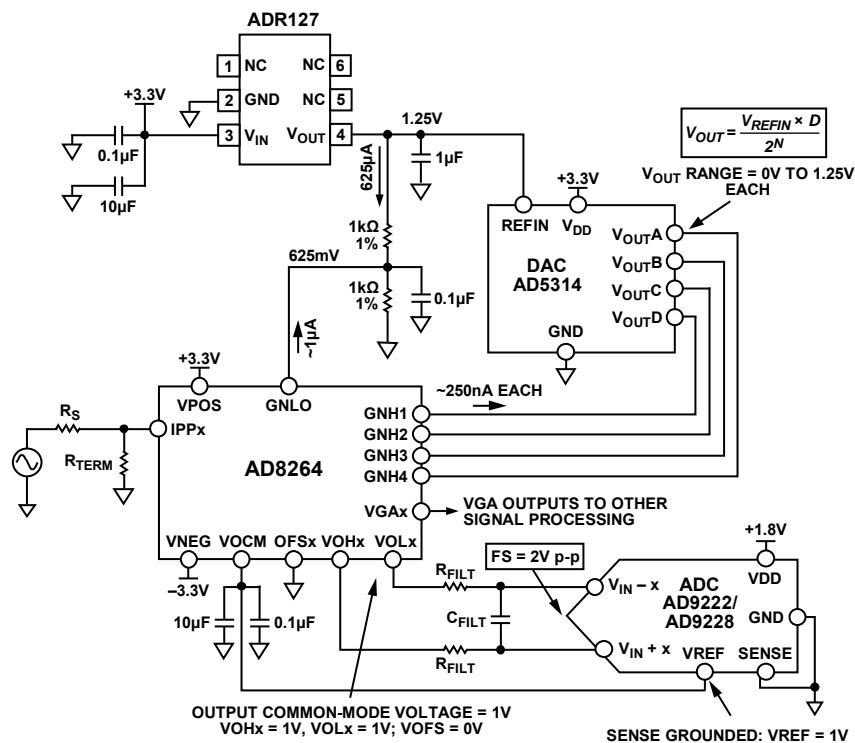
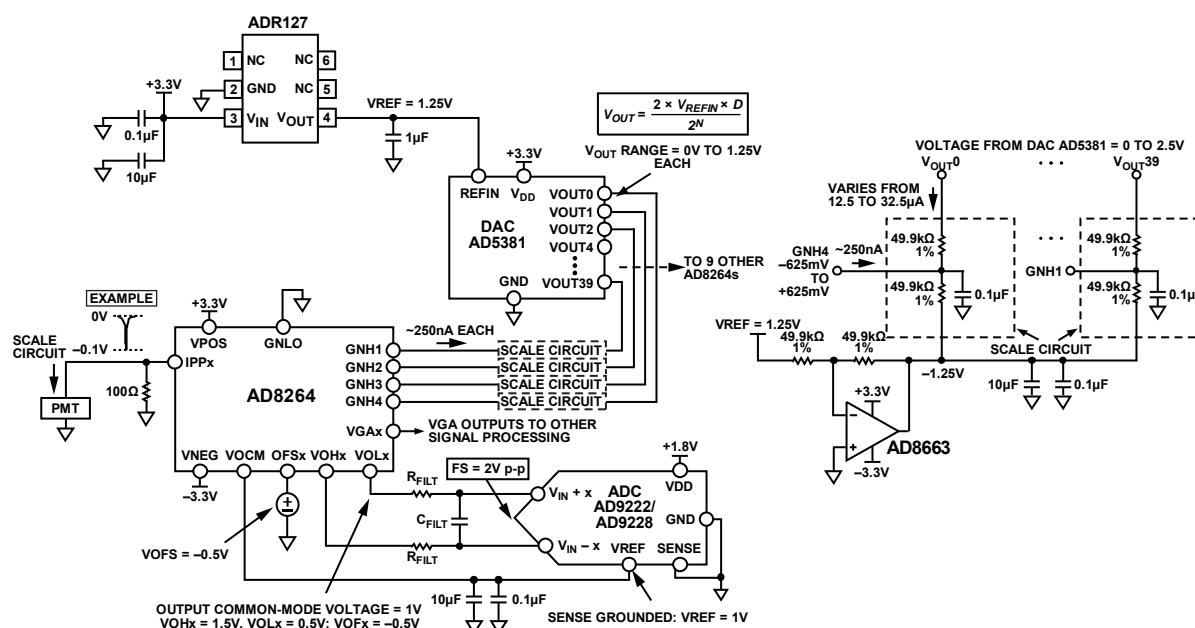

Figure 112. Application Concept of the AD8264 with the AD5314 10-Bit DAC and the AD9222/AD9228 12-Bit ADC
Figure 113. Concept Application of AD8264 with 40-Channel AD5381 12-Bit, 3 V DAC and AD9222/AD9228 12-Bit ADC
The AD8264 is particularly well suited for use in the analog front end of medical PET imaging systems. Figure 112 shows how the AD8264 may be used with the AD5314 (a 4-channel, 10-bit DAC) and the AD9222/AD9228 (an octal or quad, 12-bit ADC, respectively). The DAC sets the gain of the AD8264. Note that the full gain span of 24 dB is achieved with this setup because the gain control input range of the AD8264 is very close to 1.25 V. The GNLO pin must offset by  $1.25/2 = 625$  mV because the gain control input is bipolar around the voltage applied at GNLO. This is done with two 1 k $\Omega$ , 1% resistors. The approximately 1  $\mu$ A of bias current flowing from the GNLO pin does not contribute a significant error because the basic gain error of the AD8264 is the limiting factor.
Figure 112 also includes the DAC output equation, which indicates that the output can vary between 0 V and  $V_{REF} = 1.25$  V.
The single-ended-to-differential amplifier of the AD8264 amplifies the VGA output signal by 6 dB and can provide the required dc bias of the AD9222/AD9228, as shown in Figure 112. The ADC is connected with the default internal reference because the SENSE pin is grounded. With this connection, the AD9222/AD9228 VREF pin is an output that provides 1 V; this is then connected to the VOCM input of the AD8264, which sets the output common-mode voltage of the VOHx and VOLx pins to 1 V. This voltage is very close to the recommended optimal value of  $VDD/2 = 0.9$  V. With this configuration, the ADC inputs are set to a full-scale (FS) of 2 V p-p.
The dc connected concept example in Figure 113 is an application with the 40-channel AD5381, 3 V, 12-bit DAC. The main difference between this example and Figure 112 is that, for the same ADI27 1.25 V reference, the full-scale output of the DAC is from 0 V to  $2 \times V_{REFIN} = 2.5$  V. Two options for gain control include the following:
- Use the same circuit as in Figure 112 but use only half the DAC output voltage from 0 V to 1.25 V. This is the simplest solution, requiring the fewest extra components. Note that the overall gain resolution increases by one bit to 11 bits over the 10-bit AD5314.
- Ground GNLO and scale the DAC output so that the GNHx inputs vary from  $-0.652$  V to  $+0.625$  V. Figure 113 shows a possible circuit implementation using a divider between the DAC output and a  $-1.25$  V reference.
Figure 113 shows how the AD8264 is connected in a PET application. The PMT generates a negative-going current pulse that results in a voltage pulse at the preamplifier input and a differential output pulse on VOLx and VOHx.
A convenient method of verifying and customizing the signal chains shown in Figure 112 or Figure 113 is by ordering the corresponding evaluation boards available on [www.analog.com](http://www.analog.com). The AD8264-EVALZ is a platform through which the user can quickly become familiar with the features and performance capabilities of the AD8264. See the Evaluation Board section for more information.